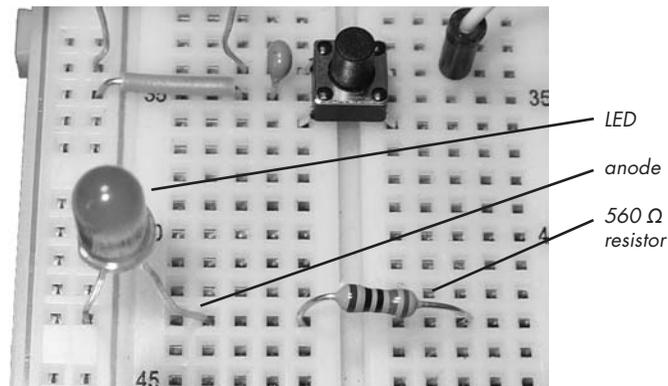

Figure 4-24: Inserting the LED and 560 Ω resistor
- Insert the LED into the breadboard with the short leg (the cathode) connected to the GND column, and the long leg (the anode) in a row to the right. Next, connect the 560 Ω resistor to the right of the LED, as shown in Figure 4-24.